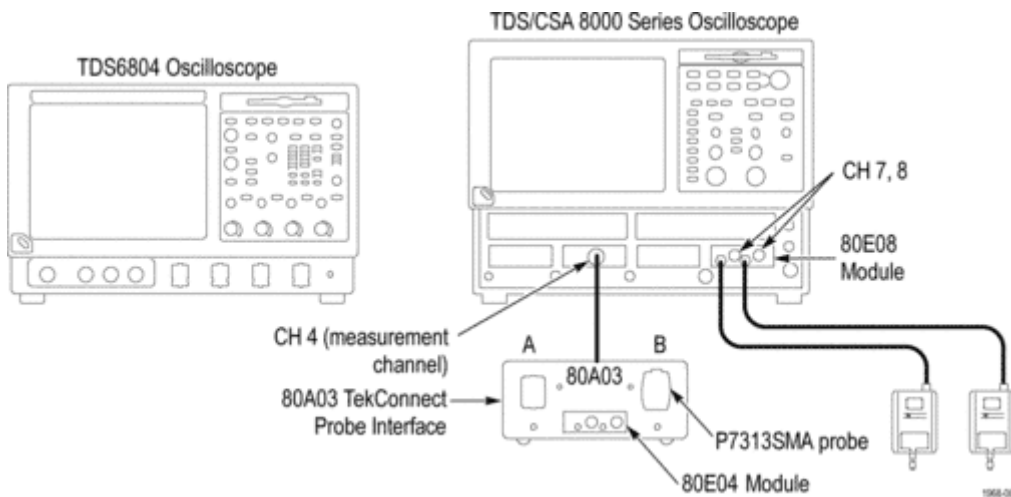

Figure 23: Preliminary test setup
1. Connect the 80A03 TekConnect probe interface to channels 3 and 4 of the TDS8000 oscilloscope. (See Figure 23.)